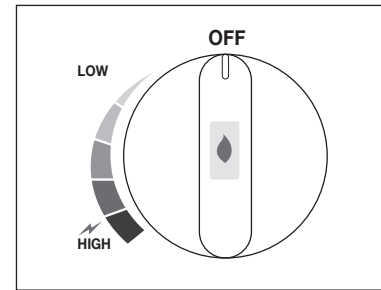

Fig. 7
1. Turn the Ignition Knob to 'OFF' to shut off fuel supply (Fig. 7). Wait until the flame is fully extinguished before performing the next step.